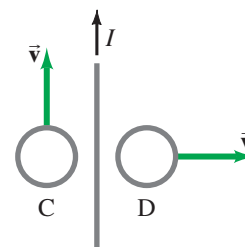

FIGURE 21–53
5. If there is induced current in Question 18 (see Fig. 21–51), wouldn't that cost energy? Where would that energy come from in case (a)?